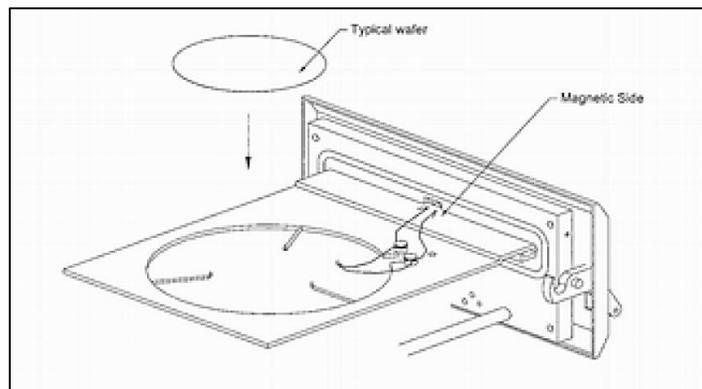

Figure 2. Installation and placement of the thermocouple and supporting tray.
2. Make sure the TC comes into contact with the bottom of the supporting wafer tray, Figure 2.